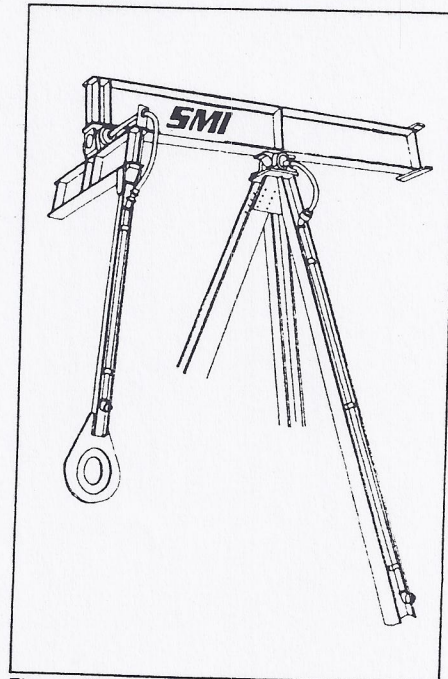

Figure 19
- g. If ground lubrication system is furnished, install it at this time. See illustration in Figure 19.